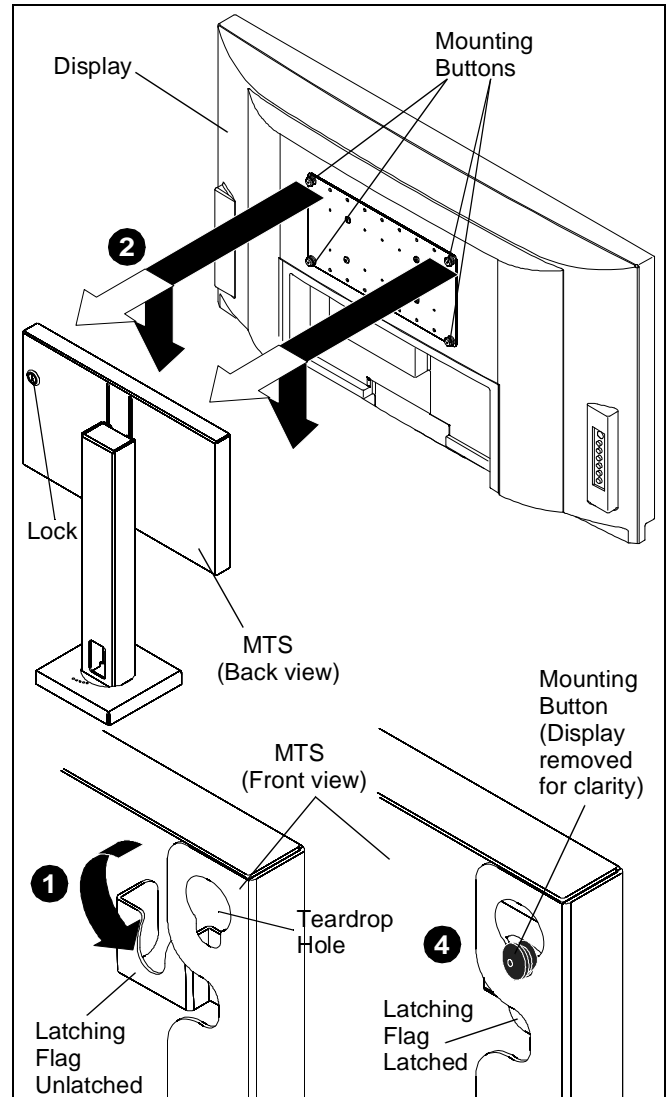

Figure 6
- Make sure the latching flag is in the unlatched position. (See Figure 6)
- Align mounting buttons with teardrop holes in the faceplate (A).
- Secure display by placing key (Z) in lock on back of MTS, turning to place the latching flag in latched and locked position. (See Figure 6)